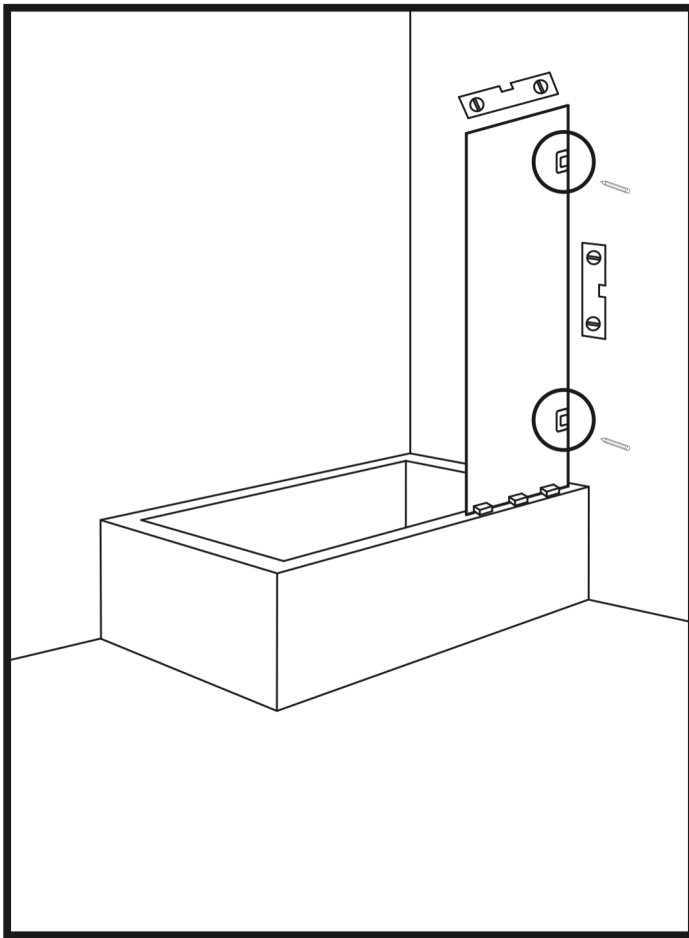

Figure 4
5. Mark the holes in the hinges (the locations of the dowel holes) on the wall and remove the glass. (Fig 4)